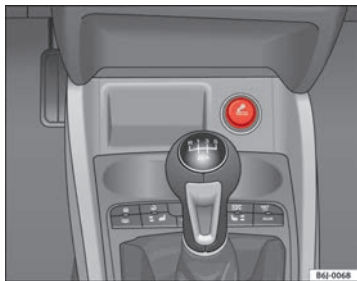

Fig. 85 Lighter
- Press on the cigarette lighter ⇒ fig. 85 to activate it ⇒ ⚠.